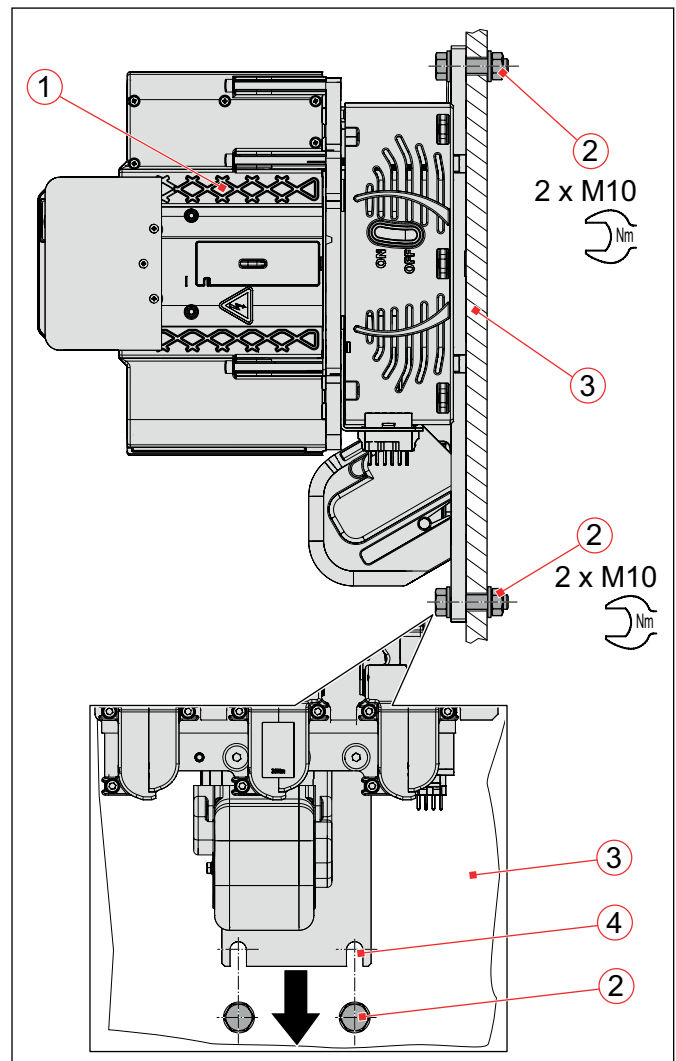

Fig. 11: CA 1315/CA 1330: Example for the installation of the contactor on a mounting plate or mounting frame
- ▶ Ensure that the contact surfaces on the mounting plate (3) or mounting frame and the bottom of the contactor are free from dirt and other contamination (e. g. metal chips).
- ▶ Position the contactor (1) on the mounting plate/ frame (3) which is provided with mounting holes.
- For versions with slotted holes (Fig. 11 (4)) and vertical installation position, first slightly screw the two lower screws (2) incl. washers into the mounting plate (3) or the mounting frame and carefully slide the contactor with the slotted holes (4) onto the two screws (2).
- ▶ Screw the contactor (1) on the mounting flange to the mounting plate (3) or mounting frame using the mounting screws (2).